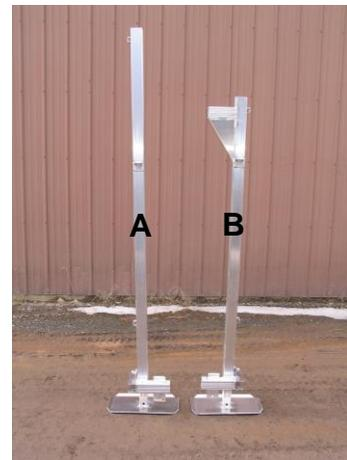

FIG. 4
1. Locate **winch** corner post **A** and corner post **B** shown in FIG. 4. (The winch post is the longest post.)